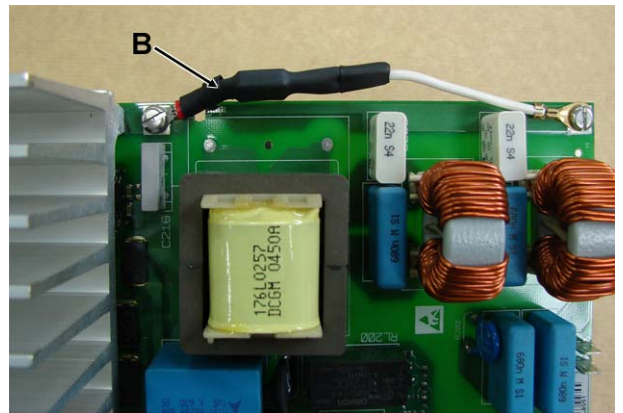

fig. 2
Models EH and EM. Installation of CEM filter (consult code in machine parts view)	In case this is not fitted at the time of manufacture, updating the machine and installing this filter to protect the inverter against voltage and intensity spikes is recommended. Placement of filter (B) : consult figure 2.